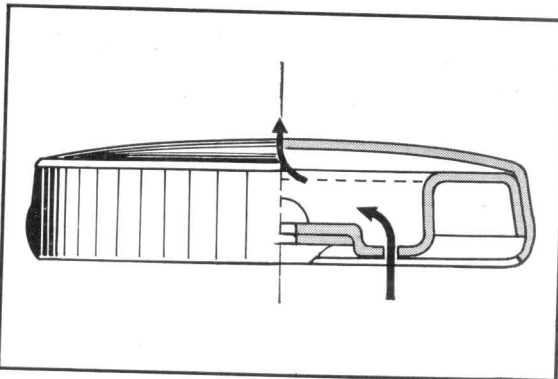

Figure 6-16. Fuel tank cap cross section (C65, C65M)
- ① The insufficient fuel flow may be caused by the plugged vent hole in the filler cap as well as the restriction in the fuel line. (Fig. 6-16, 6-17)
- ② The fuel cock is switched to RES (reserve) from the ON position when the fuel tank becomes empty. The reserve fuel supply contains approximately 0.8 l (1.7 U.S. pt) for the C50, C50M, C65, C65M and approximately 1 l (2.1 U.S. pt) for the S50 and S65, sufficient to travel approximately 50 km (31 mi) and 60 km (37 mi) respectively.